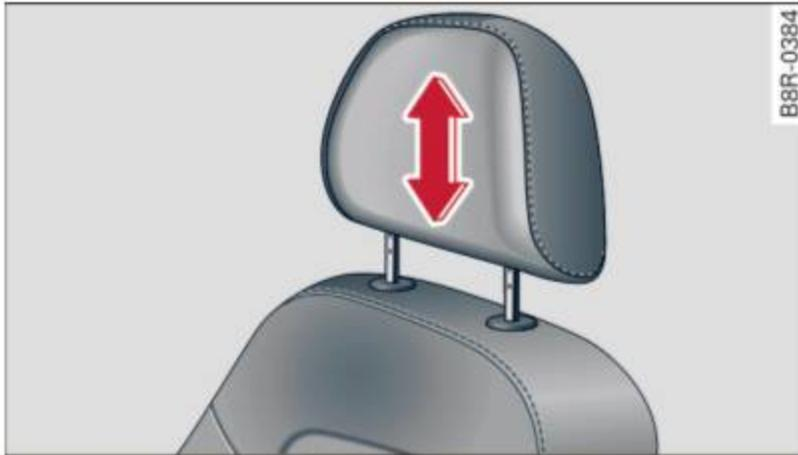

Fig. 61 Front seat: adjusting the head restraints
- ▶ To adjust the height of the head restraint, grip the head restraint on the sides with both hands and slide it up/down until it locks into place ⇒ *fig. 61*.